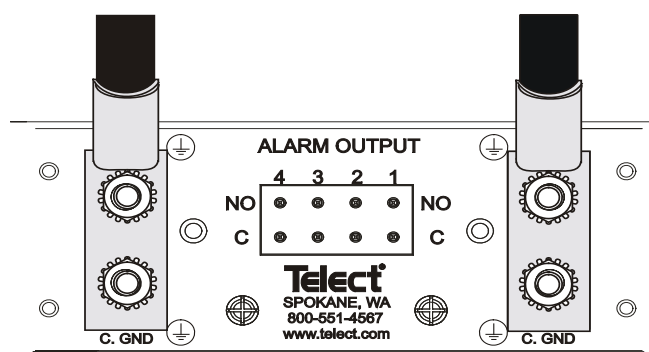

Figure 10 - Alarm Relay Terminals on the Rear of the Panel
- a. Set all **ALARM CUTOFF** switches on the front to the **SERVICE** (down) position. With breakers off, check all pairs of alarm terminals. (See Figure 10.)